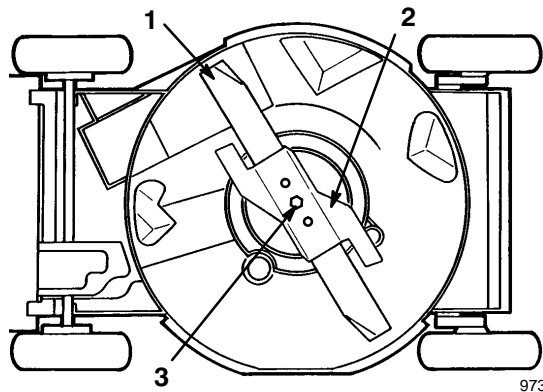

Figure 23
4. Tip the lawn mower onto its left side (Fig. 23).
Grasp the end of the blade using a rag or a thickly padded glove. Remove the blade bolt, the lock washer, the accelerator, and the blade (Fig. 23).